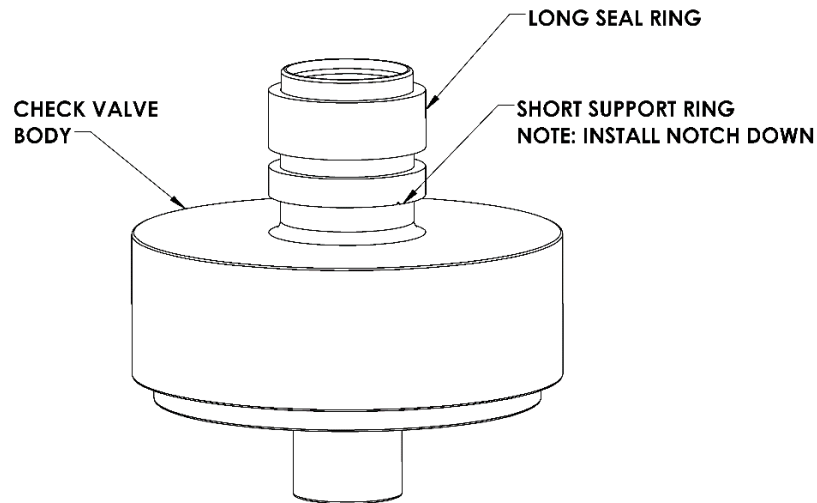

Figure 26 Installing the Short Support Ring
8. **Begin assembling** the inlet side of the check valve body assembly. This is the side with the threaded pocket and the two holes (see **Figure 26** on next page).
10. **Install** the long seal ring over the outside of the stem (see **Figure 26** above).